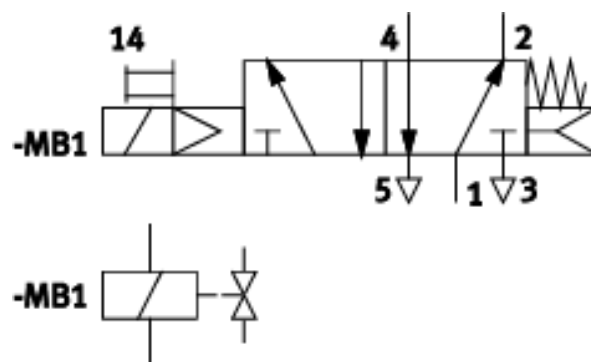

Figure 2.6: A 5/2-Way Single Solenoid Valve and its Symbol.
- **Symbol:** As seen in Figure 2.6, the symbol has two squares, a solenoid on one side, and a spring on the other.